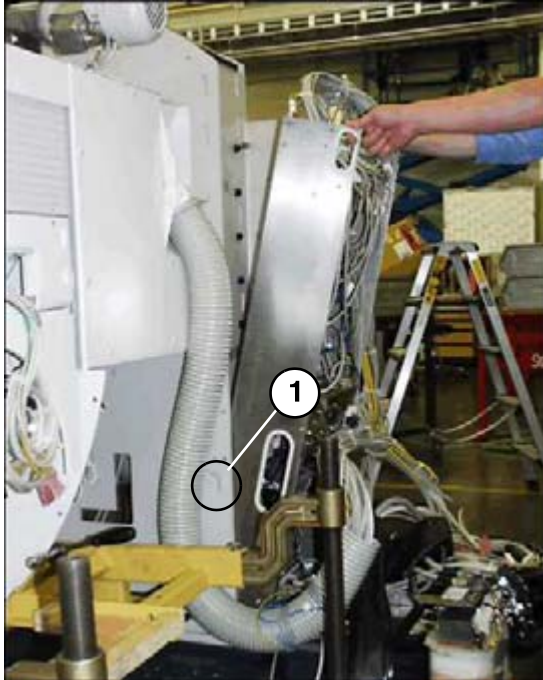

Fig. 17: Power supply module
- Remove the transport safety device (have 2 people lift the power supply module) and insert it in the guide bolts on the lifting base (1/ Fig. 17 / p. 19).